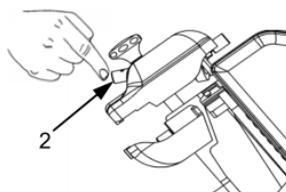

Fig. 27
6. Plug in the device and turn it on again with the white button “ON“ (l) of the switch (13) of the device.
7. Press the button (2, fig. 27) and allow the blade to rotate between the two sharpening stones during approx. 30-40 seconds until a burr appears on the blade.